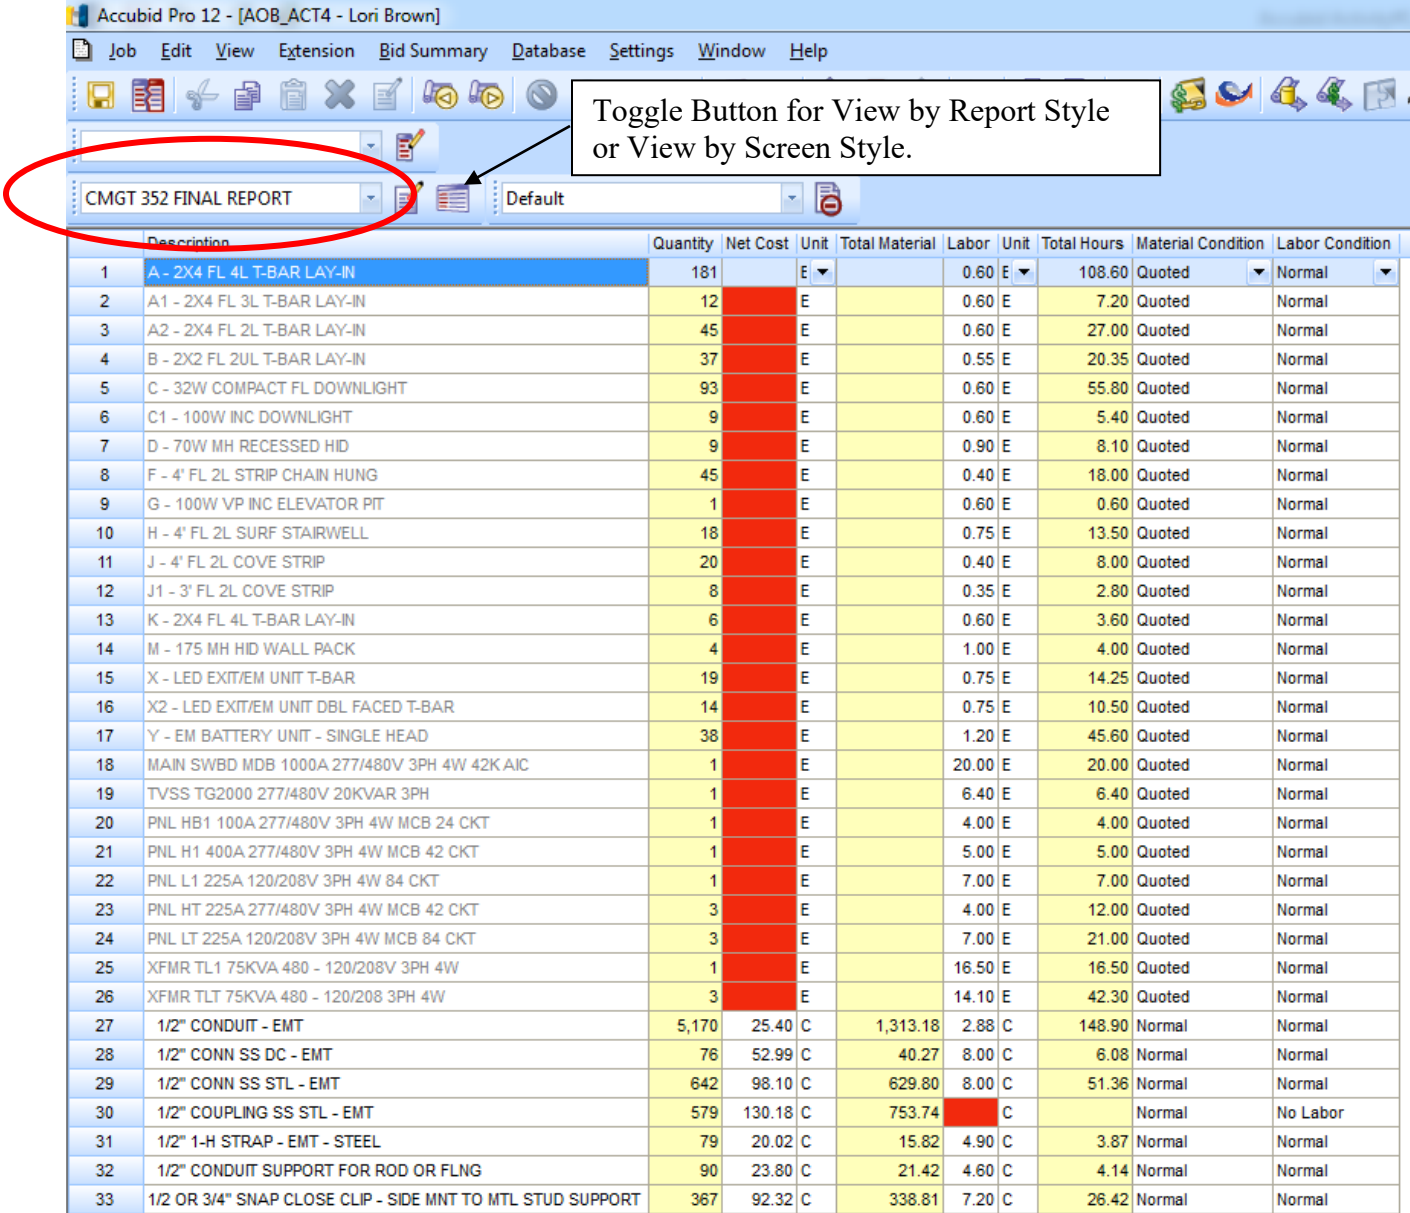

Fig. 17
19. Adjust each of the column widths to “best fit” by moving the mouse near the column heading between each of the columns until a double-headed arrow mouse pointer appears and then double-clicking to fit the data to the column as shown in Fig. 17. **This is important to do otherwise the printed report will not fit on one page width.**